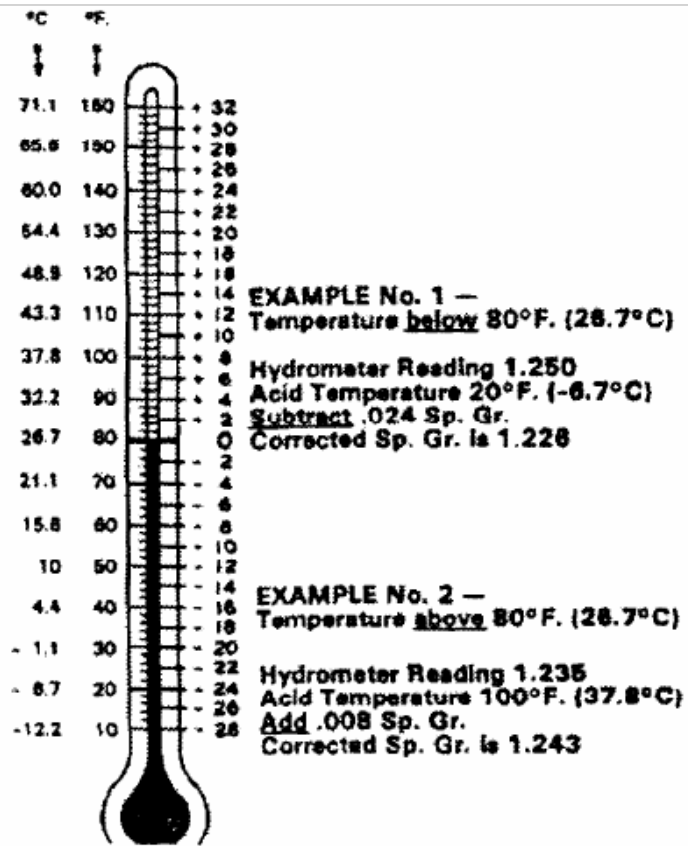

Figure 3-6
Battery electrolyte temperature reading is 60 degrees Fahrenheit and the hydrometer shows a specific gravity of 1.240. Since 60 degrees is two 10's below 80 degrees Fahrenheit, you must subtract two 4's or eight (8) specific gravity units from hydrometer reading. This leaves a corrected specific gravity reading of 1.232 (See Figure 3-6).
Battery electrolyte temperature is down to 20 degrees Fahrenheit and the hydrometer shows a specific gravity of 1.256. Subtract 20 from 80 to get 6 10's difference and 6 4's (24) subtract from 1.256 gives a corrected specific gravity of 1.232. (See Figure 3-6).
Battery electrolyte temperature reading is 100 degrees and the hydrometer specific gravity reading is only 1.224. The electrolyte temperature is two (2) 10's above 80 degrees Fahrenheit. You must add two 4's or eight specific gravity units to the original float reading to get a corrected specific gravity reading of 1.232 (See Figure 3-6).
(3) Perform steps in para. 3-8c (2)f thru k.